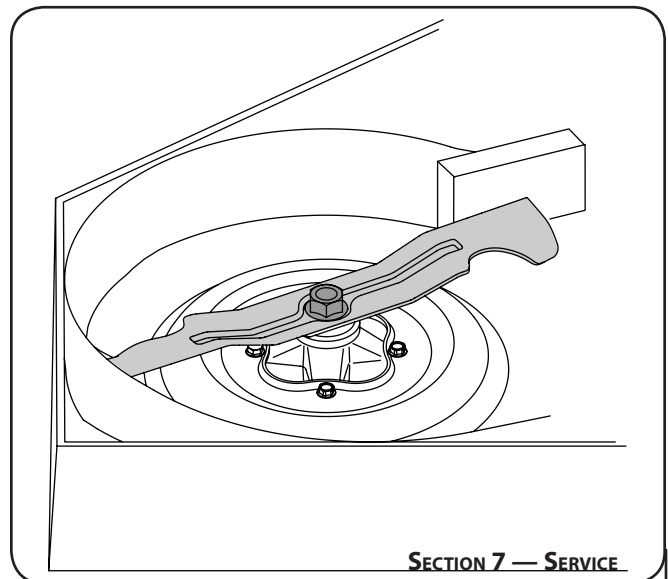

Figure 1-6
3. Wrap a rag around one end of the blade and grasp it to prevent it from turning, or secure the blade by placing a block of wood between the blade and the deck housing. See Figure 1-6.